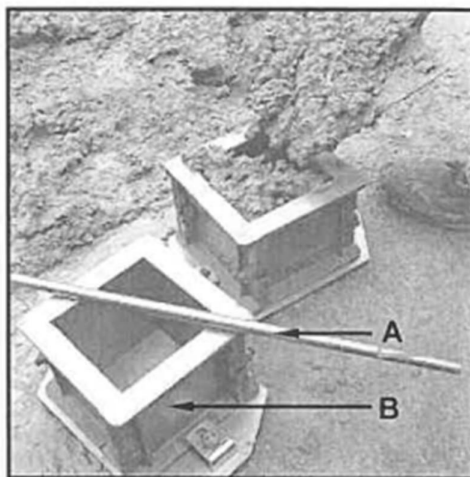

FIGURE 4.2
4.2 FIGURE 4.2 below shows equipment used to test concrete on a construction site. Study the figure and answer the questions that follow.
- 4.2.2 Name the test that is being performed in FIGURE 4.2 above. (1)